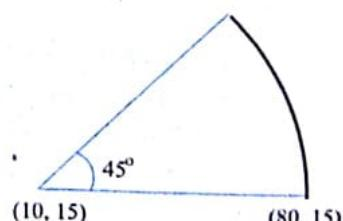

FIG. 14.12
**Example :** Draw an Arc of circle passing through start coordinate (80, 15) center coordinate (10, 15) and included angle 45°. Refer figure 14.12.